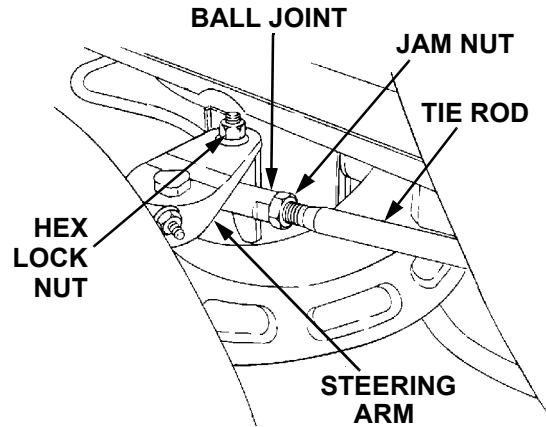

Figure 13
5. Disconnect the front ball joints from the steering arms by removing the hex lock nuts (Refer to Figure 13). Manually move each wheel to achieve the required toe-in *and* equal D measurements.
6. Loosen the jam nuts from the ball joints (See Figure 13).